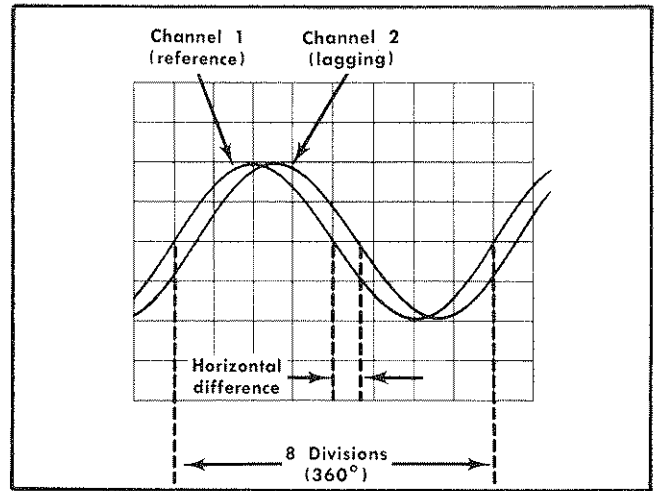
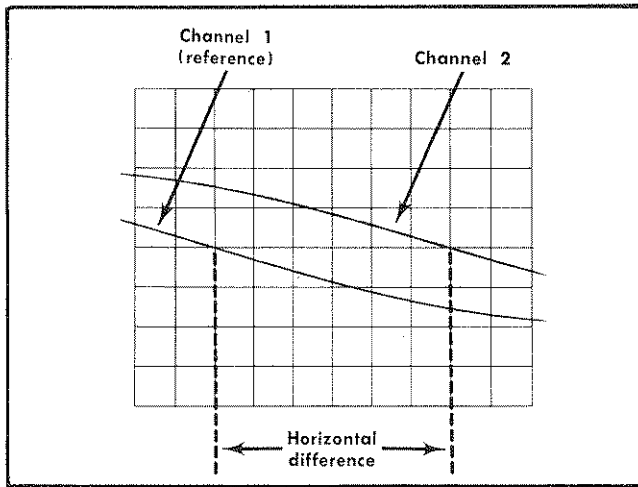

Fig. 2-7. Measuring phase difference.
Fig. 2-8. High-resolution phase-difference measurement with increased sweep rate.
9. Turn the Variable Seconds/Div control until one cycle of the reference signal (Channel 1) occupies exactly eight divisions between the second and tenth vertical lines of the graticule (see Fig. 2-7). Each division of the graticule represents 45° of the cycle (360° + 8 divisions = 45°/division). The sweep rate can be stated in terms of degrees as 45°/division.
EXAMPLE: Assume a horizontal difference of 0.6 division with a sweep rate of 45°/division as shown in Fig. 2-7.
EXAMPLE: If the sweep rate were increased 10 times with the magnifier, the magnified sweep rate would be  $45^\circ/\text{division} \div 10 = 4.5^\circ/\text{division}$ . Fig. 2-8 shows the same signals as used in Fig. 2-7, but with the SWP MAG button pushed in. With a horizontal difference of six divisions, the phase difference is: